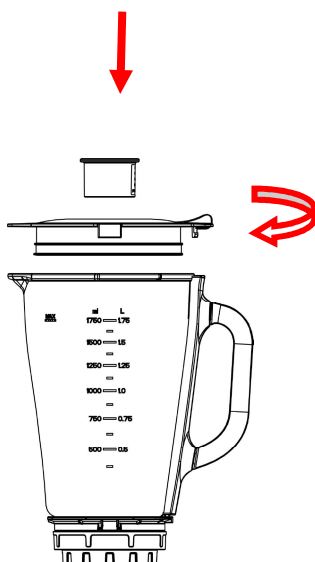

Fig.4
2) Reposition the jar assembly with its opening upwards. Wrap the seal ring 1 around the lid bottom and put the lid onto the jar assembly. Place the measure cup exactly into the lid by fitting the small projection on both sides of the cup into the slots of the lid and turning the jar cover clockwise until tight. (See Fig.4)